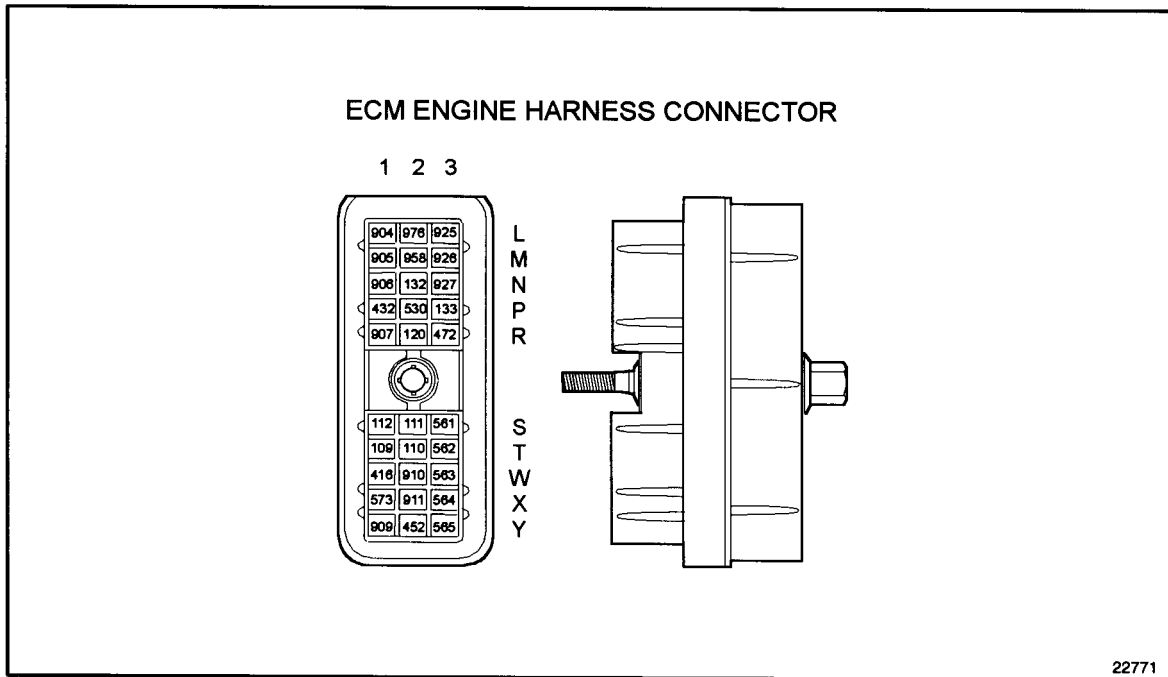

Figure 14-4 ECM Engine Harness Connector
4. Measure resistance between sockets P3 #133 and W1 #416 on the engine harness connector. See Figure 14-4.
4. Measure resistance between sockets R2 #120 and W1 #416 on the engine harness connector. See Figure 14-4.